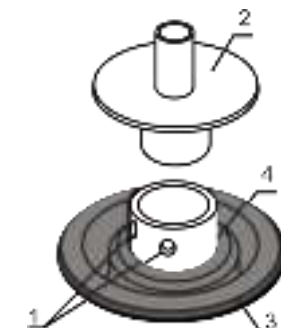

Figure 2. Gasket replacement
- Unscrew the two screws (fig. 2/1) on the rotor.
- Remove the platform adapter (fig. 2/2).
- Install a new gasket, matching the inside of the gasket edge to the rotor groove (fig. 2/4).
- Pull the outer side of the gasket groove (fig. 2/3) on the plastic body edge.